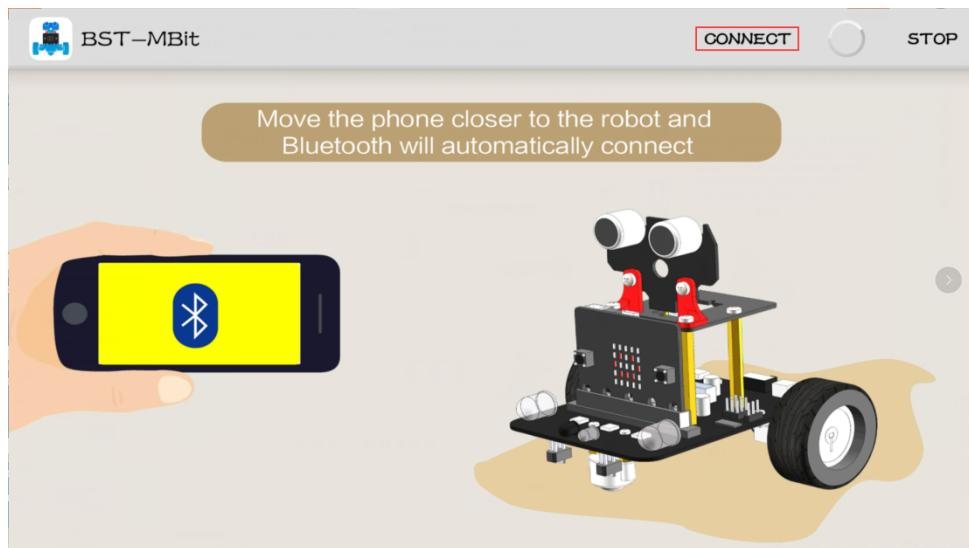

Figure 1.2
6.2 Open the Bluetooth of your mobile phone, and open the Bluetooth APP, Mobile phone close to robot Bluetooth automatic connection. If Bluetooth can't connect automatically, you need to click 【CONNECT】to connect the Bluetooth between the phone and the robot. As shown in Figure 1.2